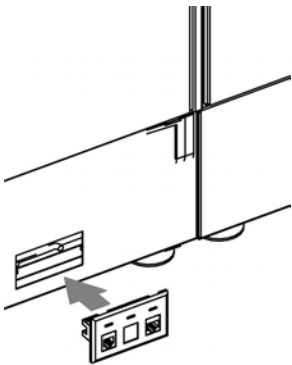

Figure 7
- 9. Insert the communication kit into the communication kit opening, (Figure 7).